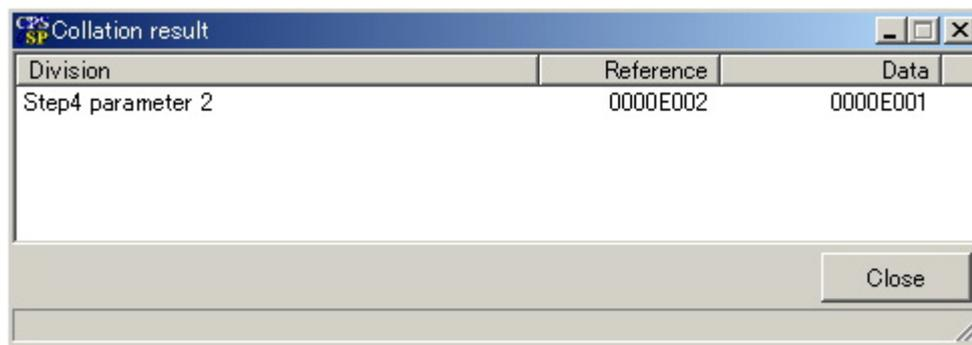

Fig.4-7 Program collation result
| (3) | Collation | The selected program is compared with the program currently displayed by the present editor. When there is disagreement, a collation result is displayed as shown in Fig. 4-7. |